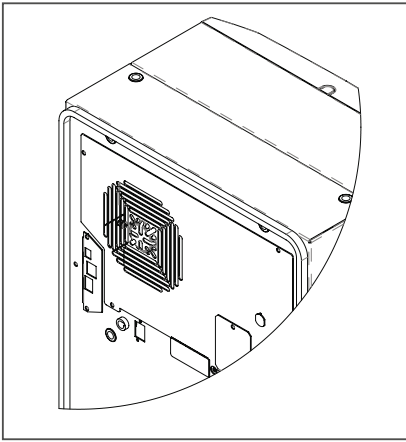

Figure 3
- Using the mounting gasket kit provided with the unit, install gasket to the air conditioner, see Figure 3.